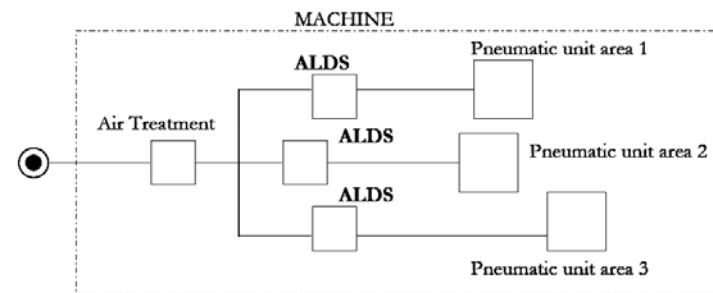

Figure 8
- Depending on the complexity of the machine, it is possible to equip it with several devices monitoring different areas, see Figure 8. This aspect is one of the technical choices made by the machine builder.